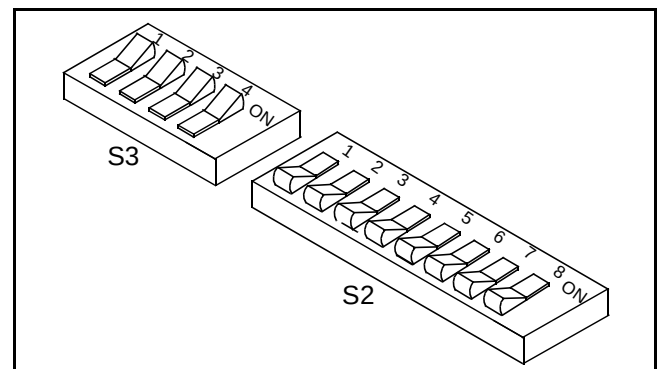

Figure 6-12 New HSDB Switch Settings
1. **On the MPC** set switch settings for RS-485 (new style) operation are shown in Figure 6-12.